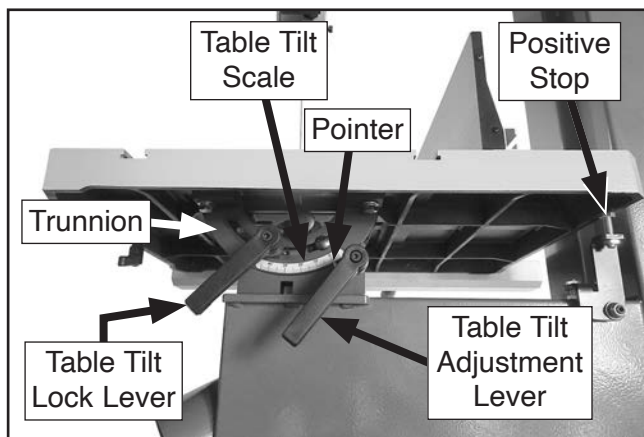

Figure 75. Table tilt controls.
The table can be tilted from 5° left–45° right to make beveled cuts. A table tilt scale with pointer is provided on the trunnion, and a positive stop is provided for quickly returning the table back to 0° from a right-tilt setting (see **Figure 75**).
2. Loosen table tilt lock lever (see **Figure 75**).